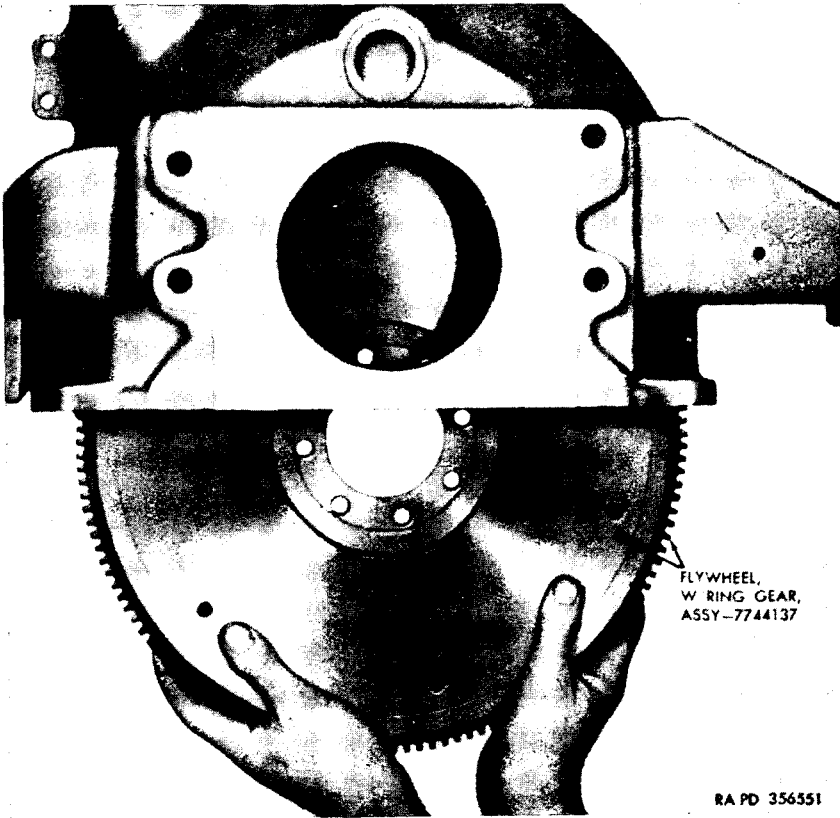

Figure 58. Installing flywheel.
g. Inspect, Repair, and Install Flywheel (fig. 58). Inspect the teeth of the flywheel ring gear and, if damaged, replace the ring gear. Inspect the clutch surface of the flywheel and, if rough or damaged, replace the flywheel. If replacement of the ring gear is necessary, cut the old ring gear with a chisel and remove it from the flywheel. Clean ring gear recess in flywheel thoroughly. Heat the new ring gear to 600° F. Place the ring gear over the recess in the flywheel and allow it to shrink.